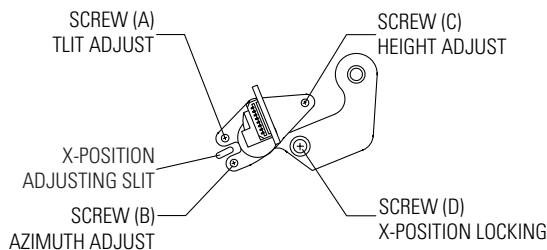

Fig. 3-5-1 Location of ACE Head Adjustment Screw
- 3) Turn screw (C) clockwise or counterclockwise until the gap of lower tape edge and the lower edge of the control head is about 0.25mm. (Refer to Fig. 3-5-1 and 3-5-2)
- 3) Adjust screw (B) to achieve maximum audio level. (See Fig. 3-5-1)